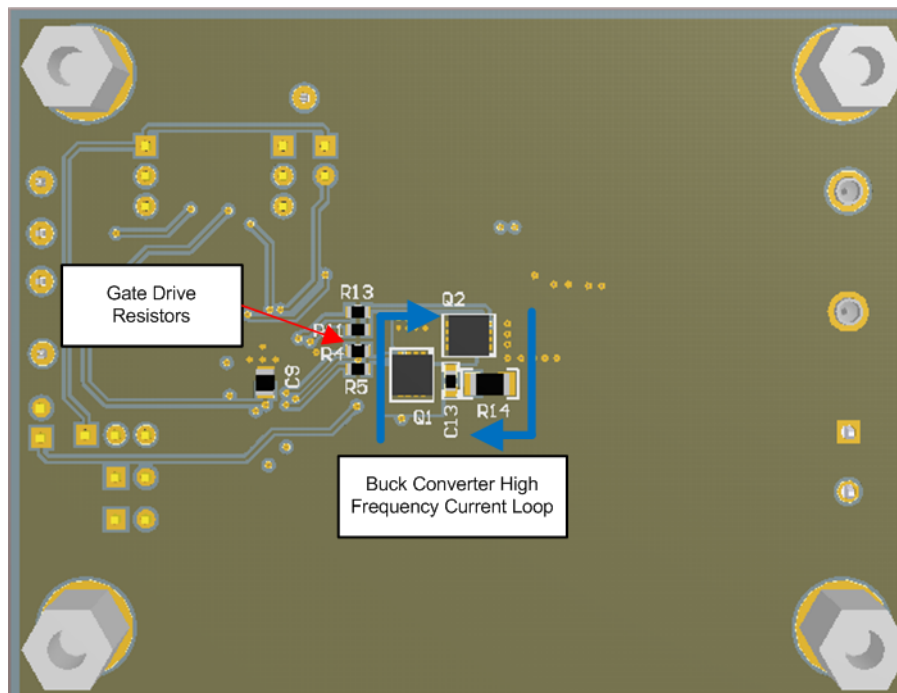
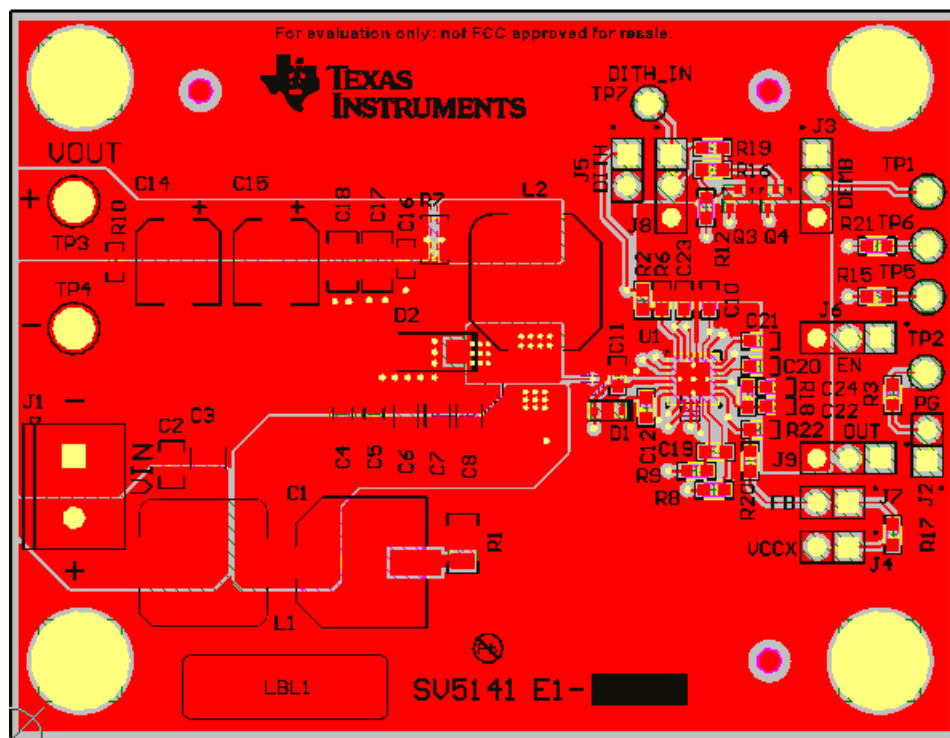
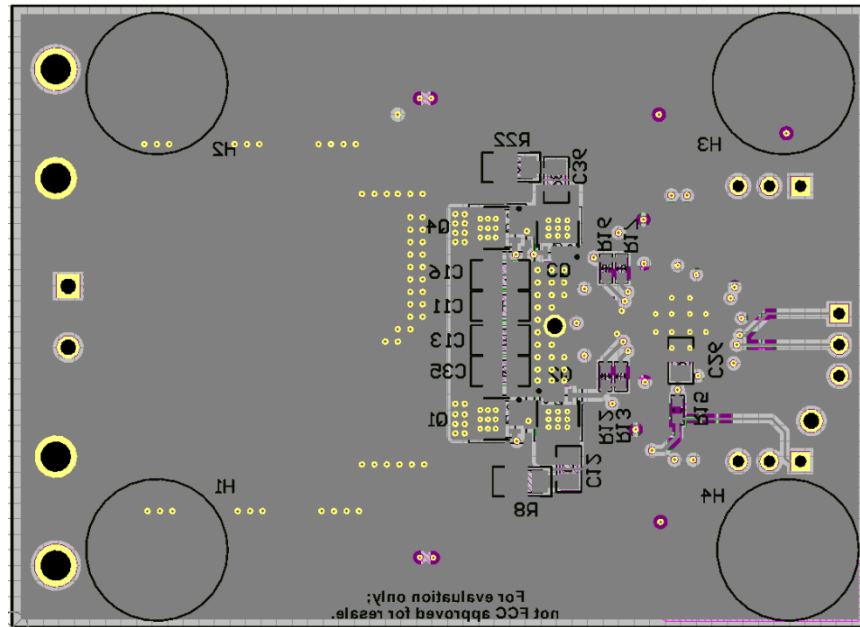

Figure 39. EVM Bottom Layer, High Frequency Current Loop
Figure 41. EVM Top Layer
Figure 42. EVM Bottom Layer
- Figure 39 shows the high frequency loops of the synchronous buck converter. The high frequency current flows through Q1 and Q2, through the power ground plane and back to V_{IN} through the ceramic capacitors C6, C7, and C8. This loop must be as small as possible to minimize EMI. Refer to Figure 41 and Figure 42 for the recommended PCB layout.
Figure 41 and Figure 42 show the top and bottom layer of the LM5141-Q1 EVM.